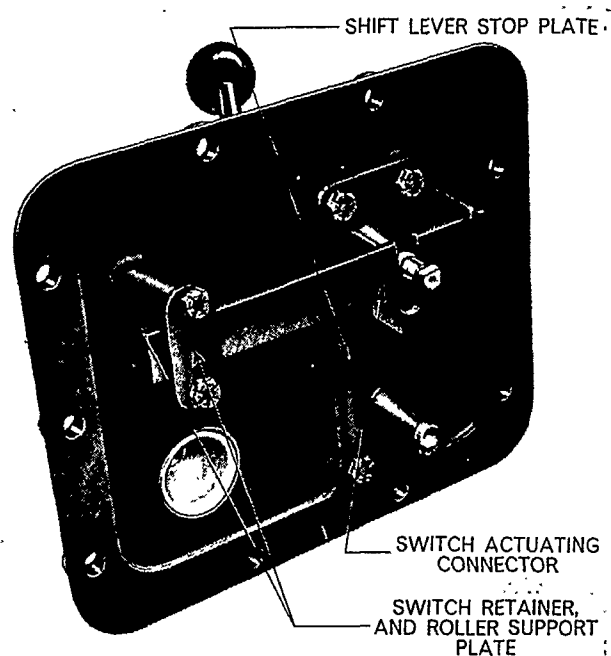

Figure 7
- a. Remove the two self-locking bolts retaining the roller support plate and the switch retainer to the cover, Figure 7. Remove the roller support plate, the switch retainer, the actuating connector, the roller and the plunger.
- b. Position the shift lever stop plate, Figure 7, and install the four self-locking screws. Tighten the screws to the specified torque. (See Specifications, Chapter 3.)
- c. Position the switch retainer, the actuating connector, the operating plunger, the operating roller and the roller support plate, Figure 7.